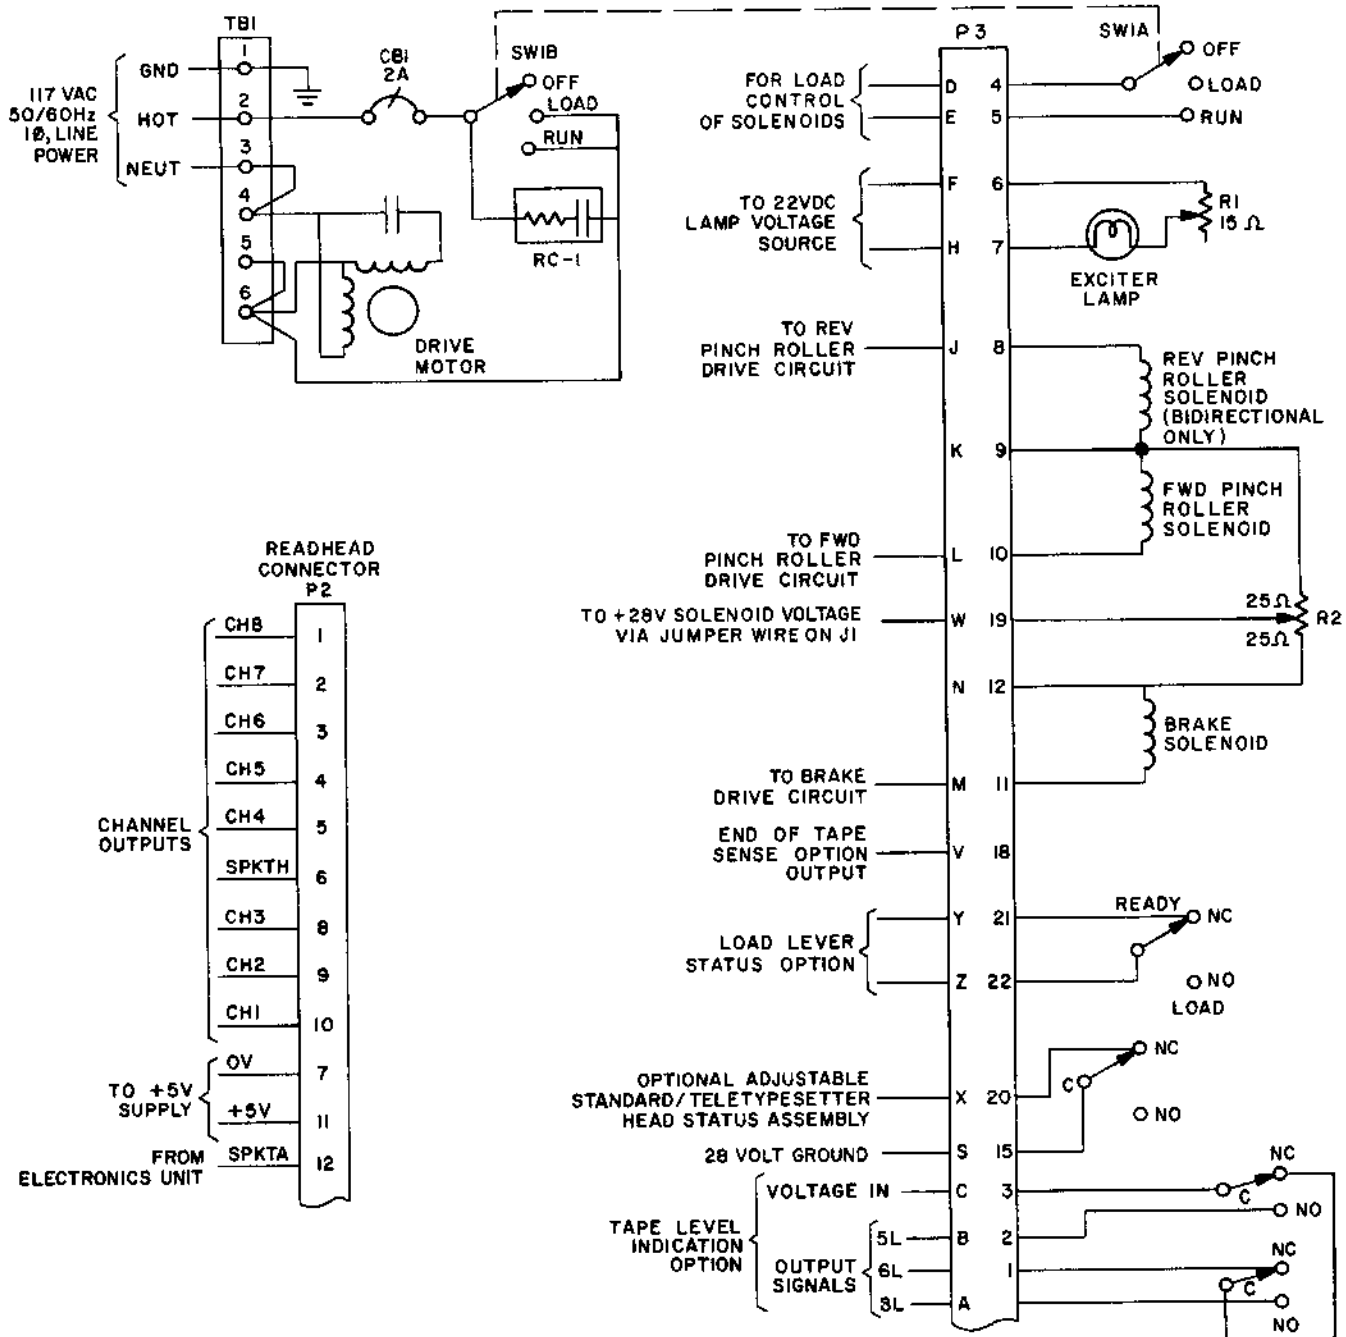

Figure 2-2. Interface Schematic Diagram, Basic Unit
2.4.1.1 Models 2540T and B2540T. Wire the 12/24-pin readhead mating connector (P2) and the 22/44-pin interface connector (P3) to the external equipment using Figure 2-2 as a guide. (Refer to Paragraph 1.4.2 for reader interface requirements.)